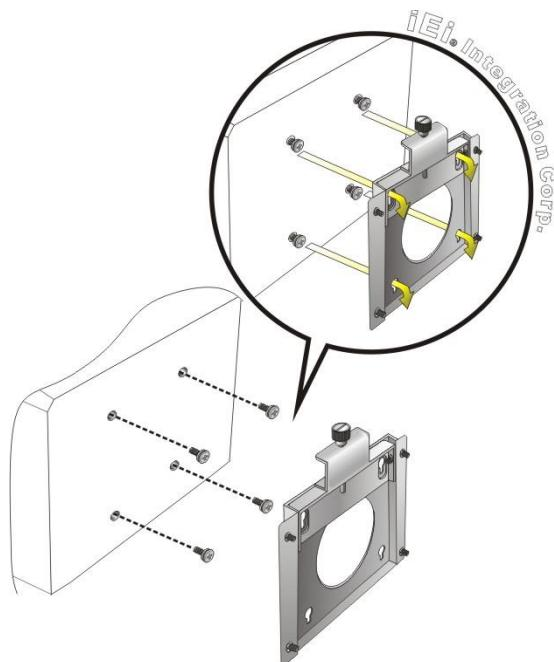

Figure 3-7: Chassis Support Screws
Step 6: Insert the four monitor mounting screws provided in the wall mount kit into the four screw holes on the real panel of the panel PC and tighten until the screw shank is secured against the rear panel (**Figure 3-7**).